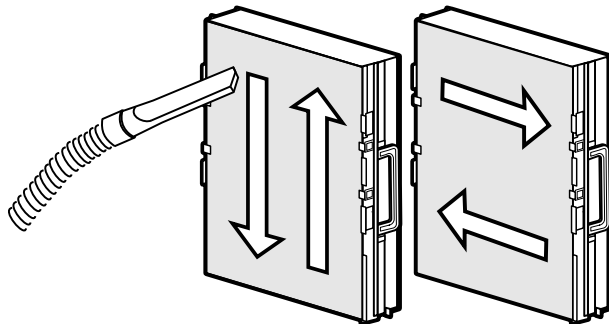

Figure 32
- Using a vacuum hose, vacuum in even strokes across the entire COLLECTION CELL surface. Vacuum using even strokes in one direction, then repeat the process using even strokes in the opposite direction, as demonstrated in Figure 32.